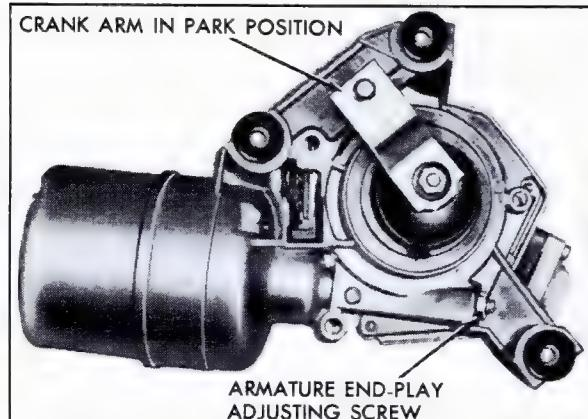

Fig. 12-18 Crank Arm in Park Position
1. Install wiper and washer assembly on cowl and secure with three attaching screws. Be sure wiper unit crank arm is in PARK position, Fig. 12-18.
- Install crank arm on drive plate and shaft assembly as shown in Fig. 12-18 and secure with attaching locknut. Tighten locknut to 60 inch pounds.